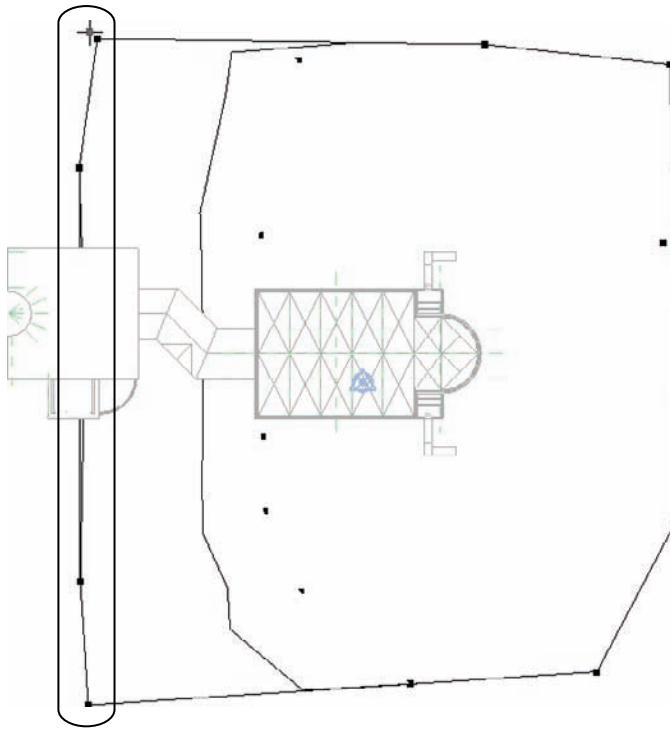

FIGURE 18.3 Adding the second contour to the site
8. Pick five or six points in a line, similar to Figure 18.3.